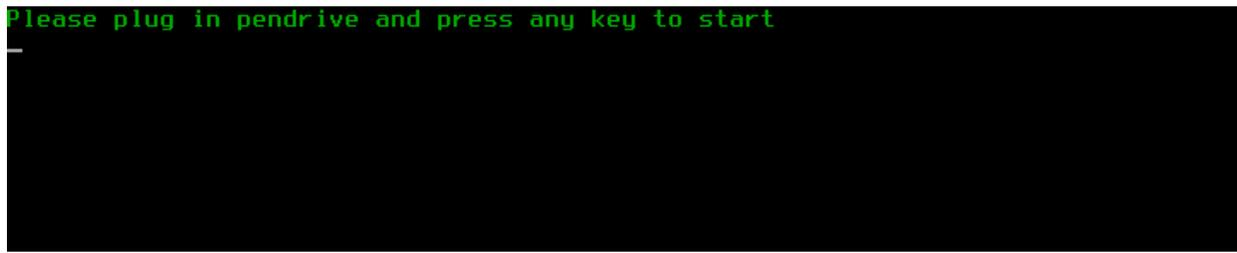

Figure 33: Bug report generation
3. select F6 - Bug report, and press any key (the bug report generation should take about 2 min.) (fig. 33)
4. execute command: `bugreport` (bug report generation should take about 2 min.) (fig. 33)